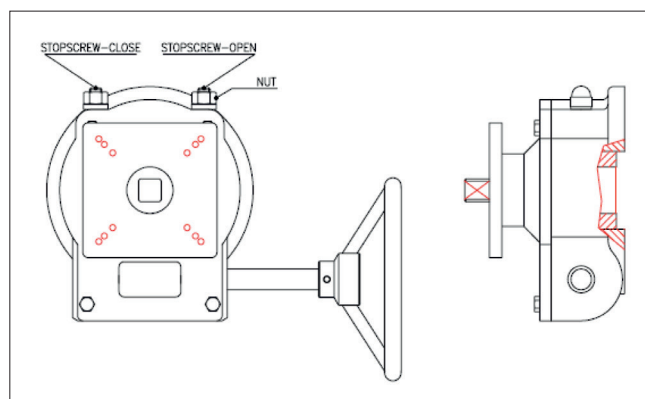

Figure 23.
- Open Stop: Turn the gear handwheel counter clockwise until it stops. Turn-in the gear open stop screw (figure 23) until it stops and then tighten the lock nut.
- Close Stop: Turn the gear handwheel clockwise until it stops. Turn-in the gear close stop screw (figure 23) until it stops and then tighten the lock nut.